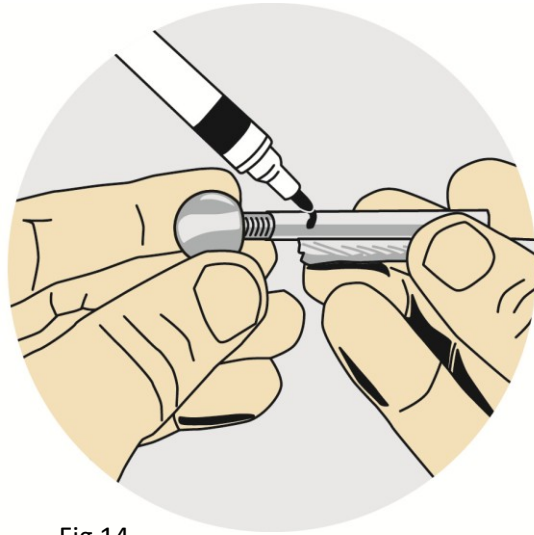

Fig 14
- Insert a piece of cable into the receiver end of the Swage Ball End (Fig. 14) and mark on the fitting that indicates how far the cable penetrates.